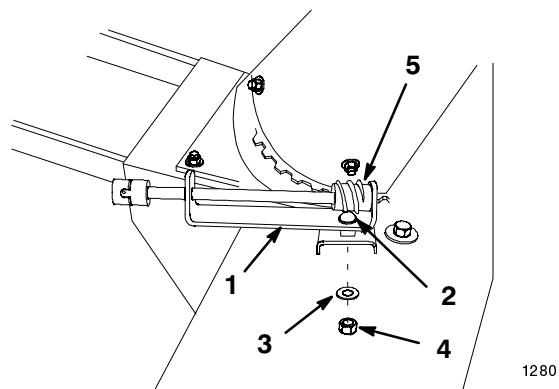

Figure 6
8. Install discharge chute rotator assembly into slot in housing with (3) 5/16 x 1" carriage bolt (head to top), (3) 5/16" pyramidal washer and (3) 5/16" locknut (Fig. 6).